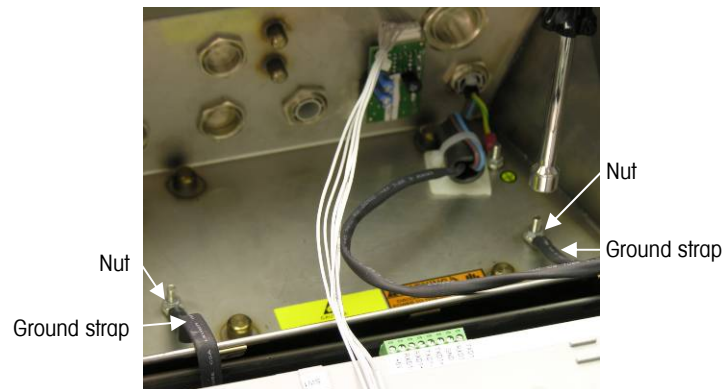

Figure 2-8: Loosening the Ground Straps
- B. Loosen and remove the two nuts securing the two grounding straps (that also operate as hinges for the front cover) to the rear housing. See Figure 2-8.